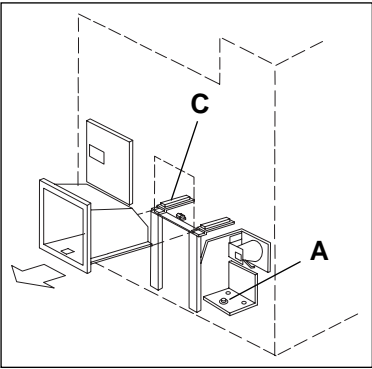
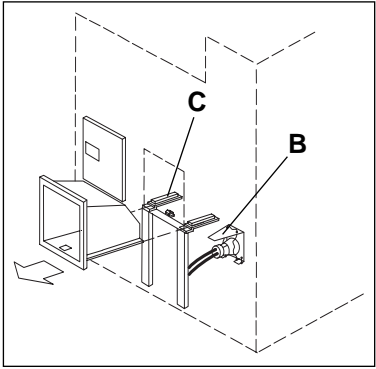

Figure 9.25
Figure 9.26
- 4. Slide the exit port out of the PPC, being careful not to damage the exit switch (Figure 9.25).
Follow Steps 5 through 11 if the instrument has the base plate mounted lamp bracket (A) as shown in Figure 9.25. Follow Steps 12 through 18 if the lamp is mounted on the transport support bracket (B) as shown in Figure 9.26.